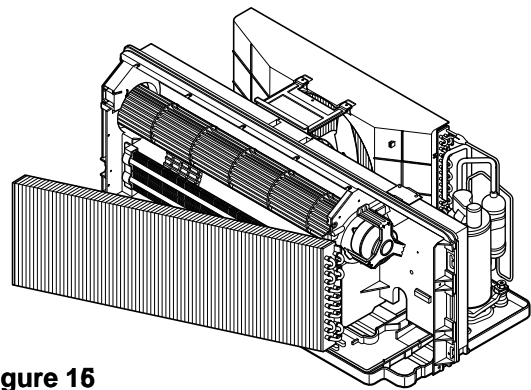

Figure 16
(See Figure 16)
- 4) Remove the hose from the vacuum pump and place it on the charging cylinder. See Figure 16 B. Open valve C.